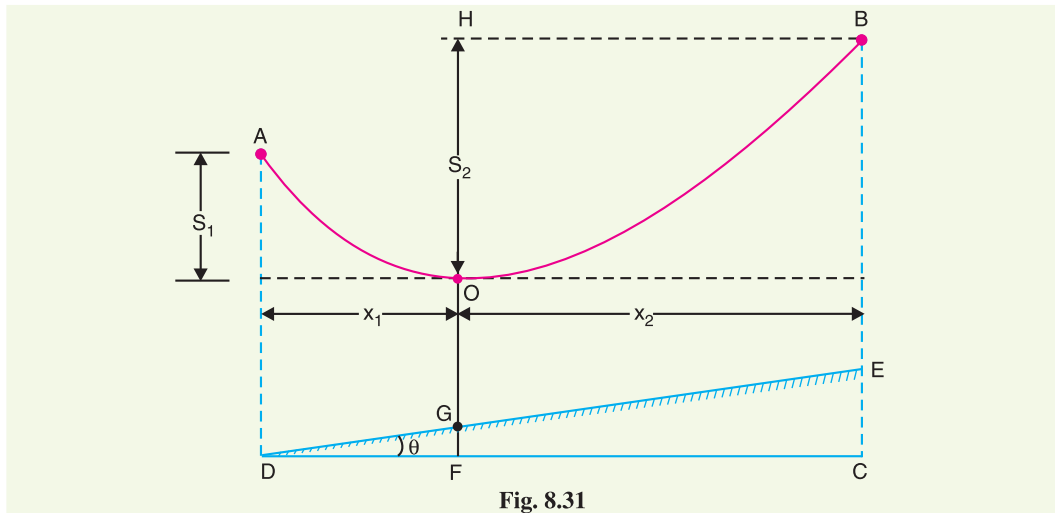

Fig. 8.31
**Solution.** The conductors are supported between towers  $AD$  and  $BE$  over a hillside having gradient of 1 : 20 as shown in Fig. 8.31. The lowest point on the conductor is  $O$  and  $\sin \theta = 1/20$ .